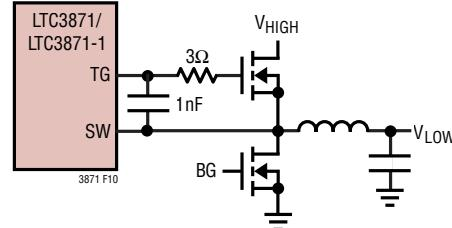

Figure 10. Filter for TG Traces > 25mm
2. The TG traces from the controller IC to the gate of the external MOSFET should be kept as short as possible to minimize the parasitic inductance. This inductance can cause voltage spikes that can potentially exceed the ABS Max rating of the drivers and damage them. A 3Ω resistor and $1nF$ capacitor can be used to filter these spikes as shown in Figure 10. When using the 9V/10V DRV_{SET} settings, or if the TG traces are longer than 25mm, this filter network must be used on both TG1 and TG2. The $1nF$ capacitor should be placed as close to the TG/SW pins as possible.